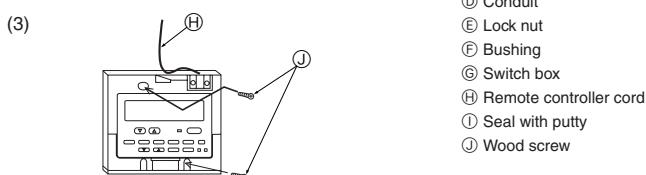

Fig. 6-4
- (3) For direct installation on the wall (Fig.6-4)